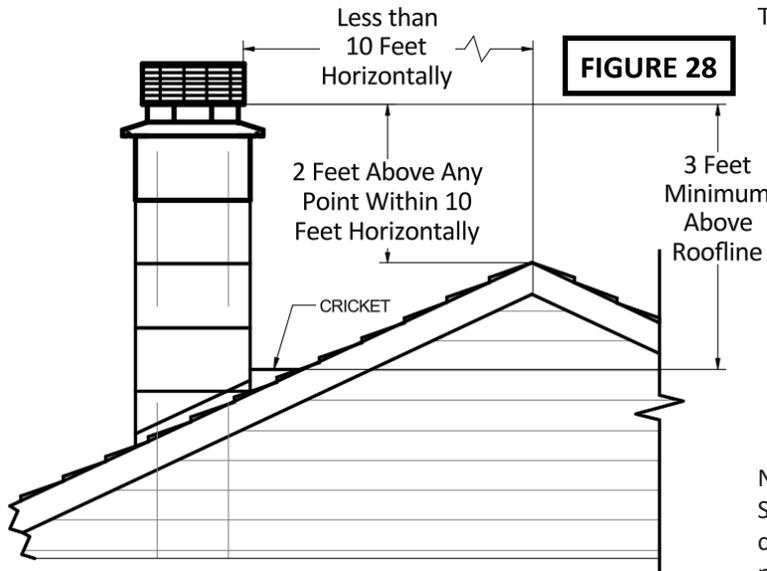

FIGURE 28
- If the horizontal distance from the roof ridge to the opening of the chimney is less than 10', the top of the chimney must be at least 2' above the roof ridge. (Figure 28)